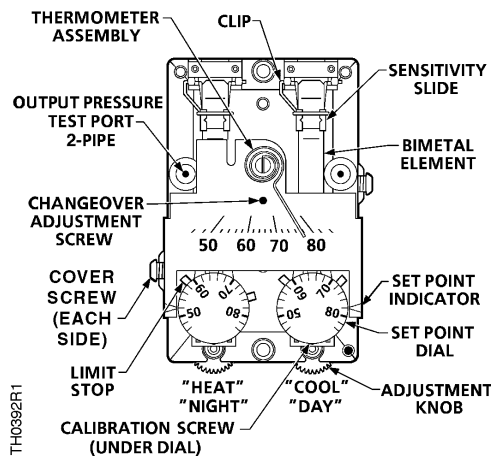

Figure 5. TH 192 HC Thermostat Details.
2. Place a screwdriver in the center of the thermometer assembly (Figure 5). Carefully rotate thermometer assembly until pointer tip indicates the correct room temperature.